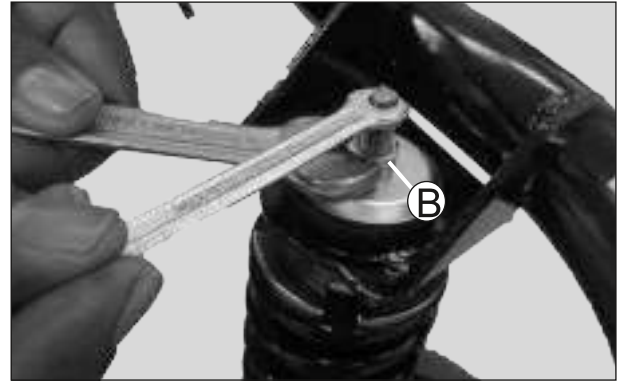

Fig. 5.31
- Hold the stud of the front shock absorber assembly top mounting with spanner. (Fig. 5.31)
- Loosen and remove 1 no. hexagonal nut (bottom) from shock absorber assembly top mounting (B). (Fig. 5.31)
- Draw out the outer race top fitted on the top end of the steering pivot tube using special tool. (Fig. 5.31)